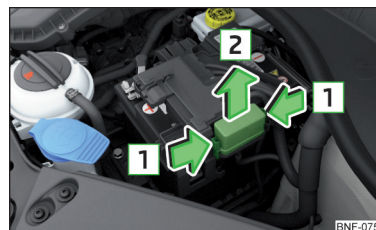

Fig. 138
» Fig. 138.
- Press the locking keys **1** of the cover » Fig. 138 together simultaneously.